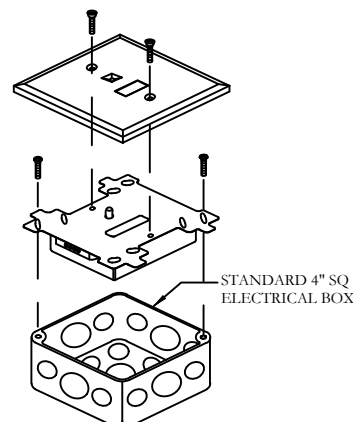

FIGURE 2
The (DCP-CZM) Conventional Zone module is mounted as shown in Figure 2 on page 1 of this instruction.
- 2) Secure the module to a U.L. listed electrical box (supplied by installer), as shown in Figure 2.